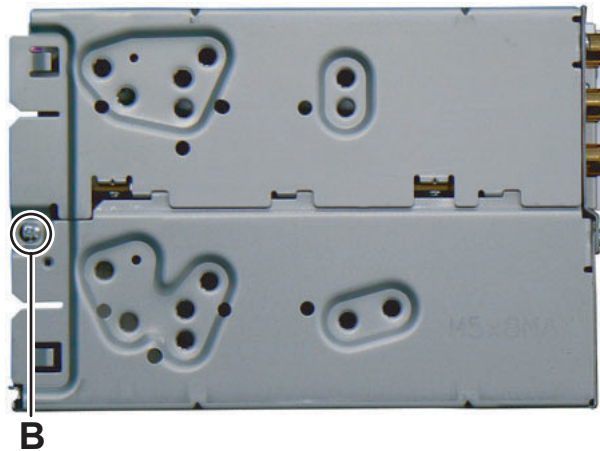

Fig.2
3.1.2 Removing the Bottom chassis (See Fig.2, 3)
- (1) Remove the 2 screws **B** attaching the both side of the Bottom chassis. (See Fig.2)